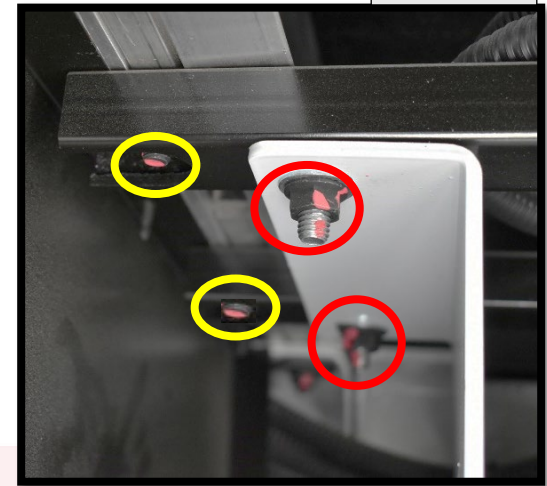

Figure 3
1. Open the Compartment door to locate and access the bolts that hold the mounting brackets of the LP Tank onto the chassis. (See Figure 3 - Highlighted in Yellow)
- a. On **View/Navion** Units, the LP Mounting Assembly is bolted to the Black Mounting brackets (2) that are positioned horizontally by one another in this compartment.
1. Inspect for missing or loose nuts and bolts on the LP Tank Brackets and the LP Mounting Assembly to the Chassis. (See Figure 3 – Highlighted in Red)